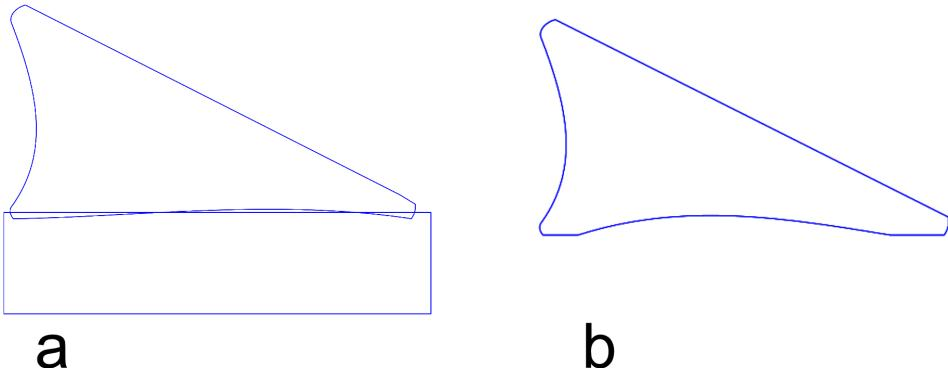

Figure 8.11 – Flattening the frame shape
4. Using the techniques from the steps in the *Creating the basic shape* section, draw a box on the bottom (*Figure 8.11 a*) and use it to flatten the bottom of our shape by using **Path | Difference** to make the bottom of the shape flatter (*Figure 8.11 b*):